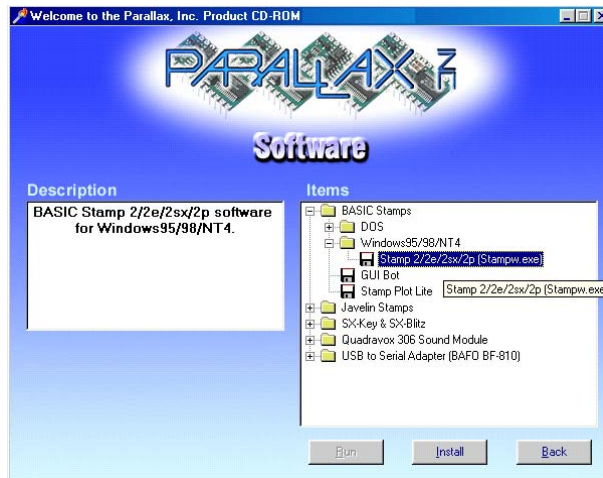

Figure 1-11
- ✓ Click the + next to the BASIC Stamps folder shown in Figure 1-11.